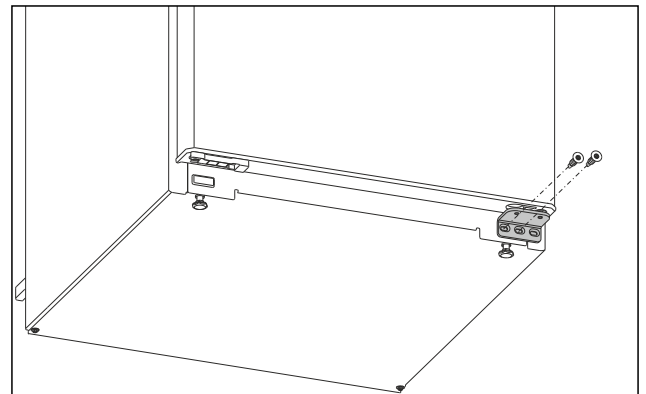

Fig. 6
- ▶ Unscrew the middle screw on the lower swap bearing block with a Torx 20 screwdriver. Fig. 6 ()
- ▶ Unscrew the inner screw on the lower swap bearing block with a Torx 15 screwdriver. Fig. 6 ()